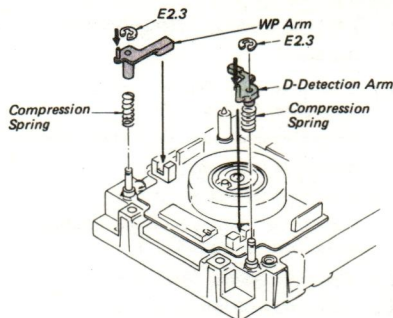

Fig. 4-10 WP Arm/D-Detection Arm/Compression Spring Replacement
- h. Remove the E ring (E2.3), pull out both the WP and D-Detection arms, and remove the compression spring (3-659-609-00) from the chassis ass'y. (Refer to Fig. 4-10)
- a. Pass the compression spring (3-659-609-00) and WP arm or the compression spring (3-659-609-00) and D-Detection arm through the shaft in sequence. Then, clamp them with the E ring (E2.3). (Refer to Fig. 4-10)